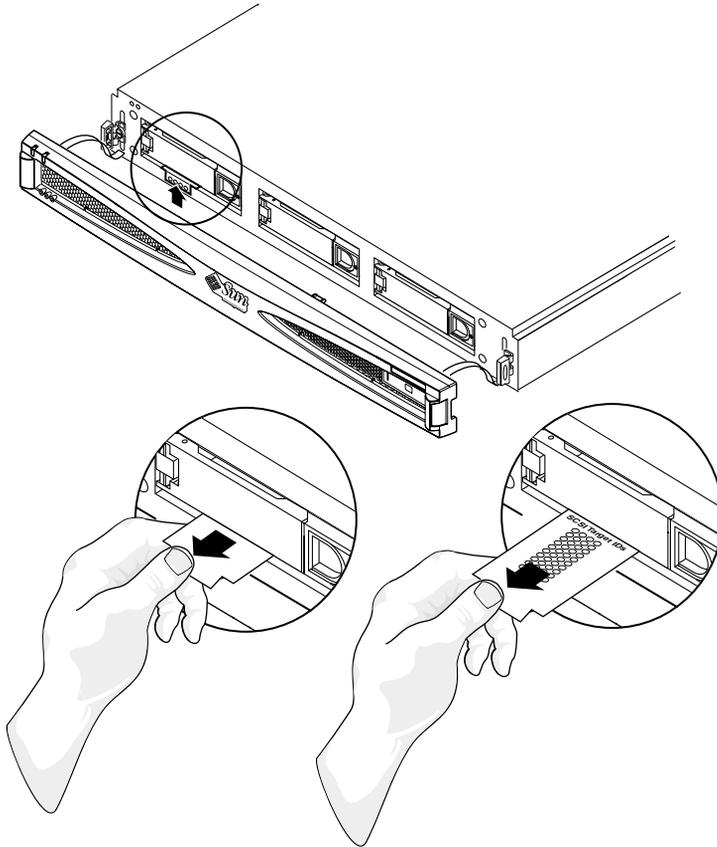

FIGURE 5-3 Checking the Binary SCSI LEDs
2. **Locate the Binary SCSI LEDs (FIGURE 5-3).**